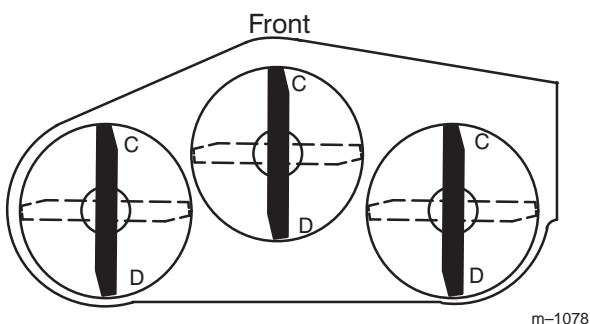
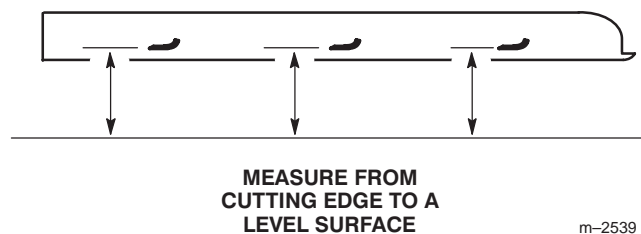

Figure 50
Figure 51
2. Position one blade front-to-rear (Fig. 50). Measure at "C" and "D" locations (Fig. 50) from a level surface to the cutting edge of the blade tips (Fig. 51).
4. Position the blades front-to-rear (Fig. 50). Measure at "C" and "D" locations (Fig. 50) from a level surface to the cutting edge of the blades (Fig. 51).